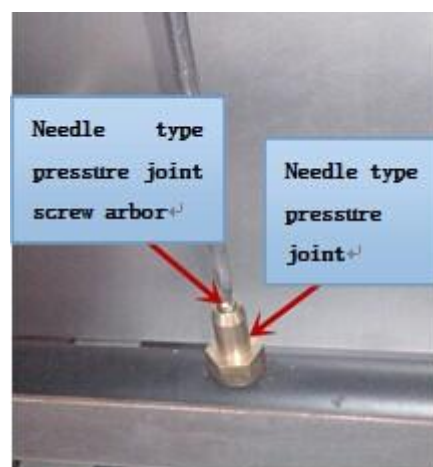

Fig.2
- Remove top panel, and needle type pressure joint screw arbor (Fig.2), then slip rubber tube of pressure gauge over needle type pressure joint;
Revolve the control valve knob clockwise to "0" (Fig.2), so that extinguish flame of the main burner, but the pilot light still works.